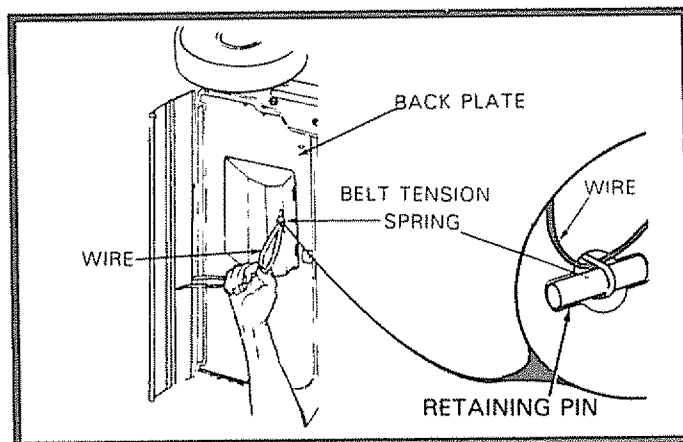

FIG. 23
- Set lawn mower in number six (6) height of cut. DO NOT change height setting unless lawn mower is on its Wheels in normal operating position.
- Using a piece of wire, pull the end of Tension Spring through the hole and remove Retaining Pin (See Fig. 23).